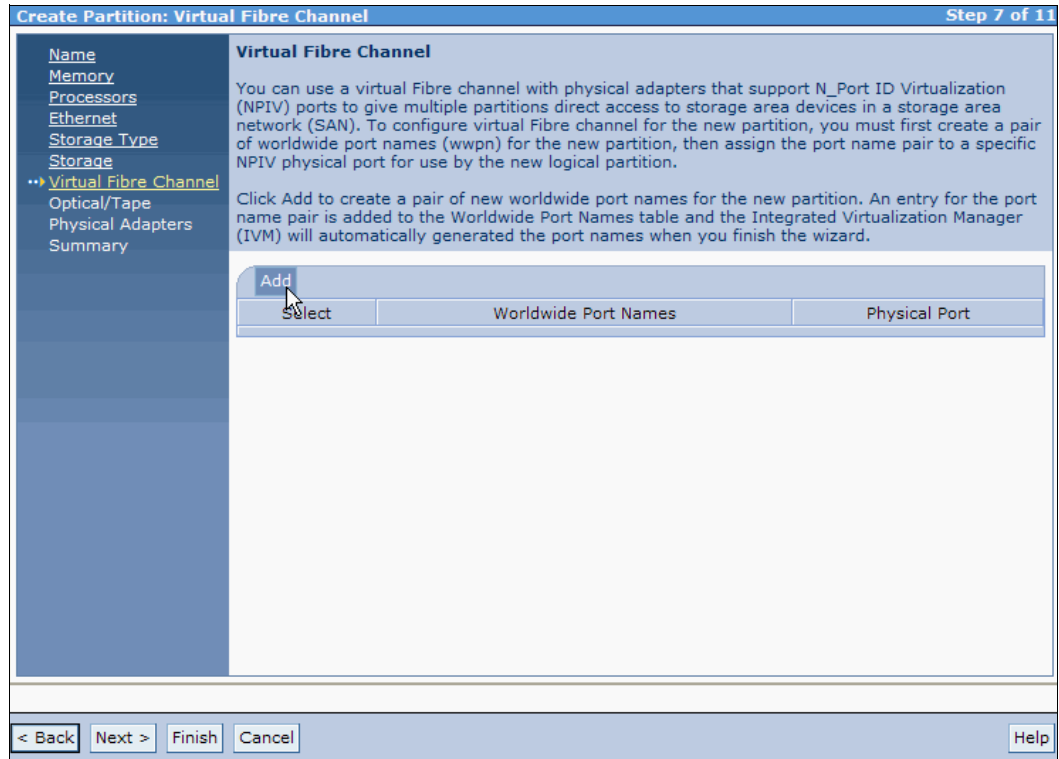

Figure 4-43 Create Partition: Virtual Fibre Channel
8. If you want to add a virtual Fibre Channel adapter to the new partition, click **Add**, as shown in Figure 4-43.